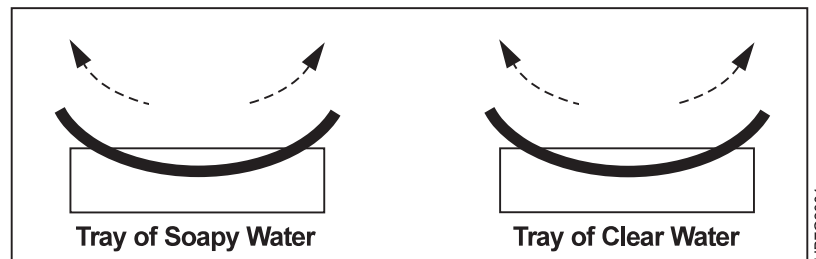

Figure 254. Cleaning a Scorotron
- a** Hold an end of the grid in each hand and rotate the grid several times through the tray of soapy water, then through the tray of clear water, as shown in Figure 254.